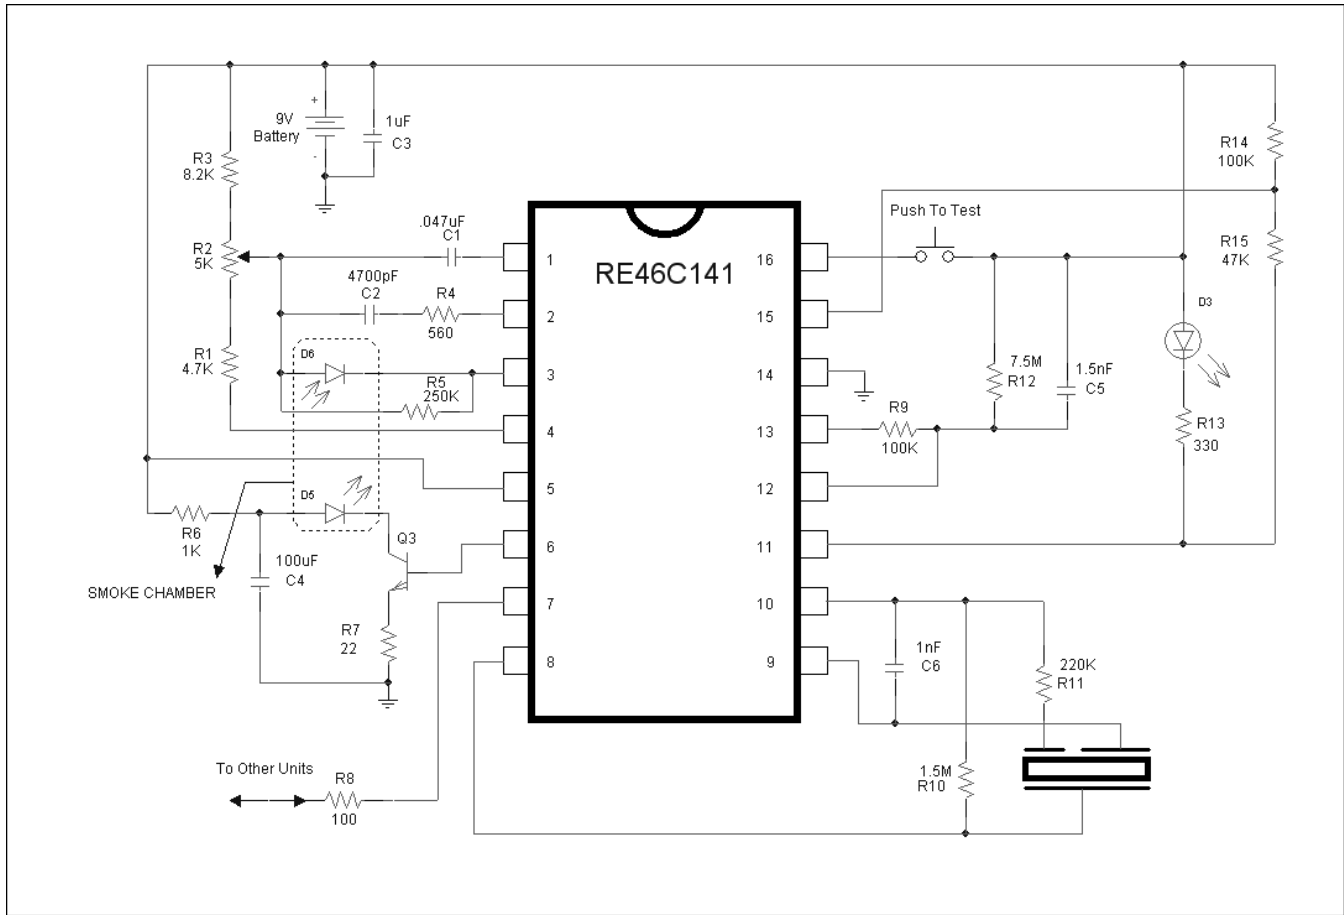

Figure 2
**AC Electrical Characteristics at TA = -25° to 75°, VDD=9V, VSS=0V, Component Values from Figure 2 ;
The oscillator period is determined by the values of R9, R12 and C5 (see typical application FIG 2). The oscillator period $T = T_R + T_F$ where $T_R = .6931 * R12 * C5$ and $T_F = .6931 * R9 * C5$